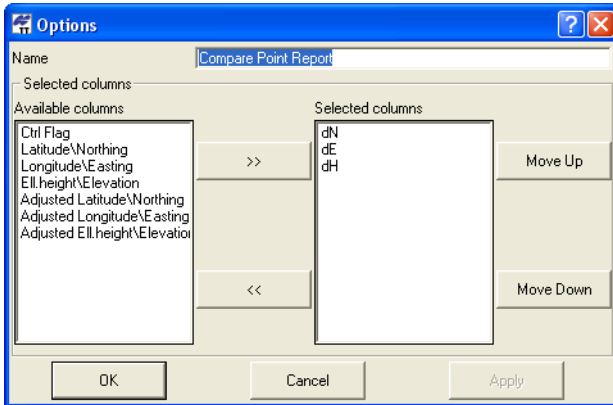

Figure 7-28. Item Options – Loop Closures
- Loop Closures – edit the name, select the loops to report, select parameters to include or exclude using the move right/move left buttons, order the display of parameters using the Move Up/Move Down buttons, and click **OK** (Figure 7-28).
- Compare Points – edit the name, select parameters to include or exclude using the move right/move left buttons, order the display of parameters using the Move Up/Move Down buttons, and click **OK** (Figure 7-28 on page 7-19).